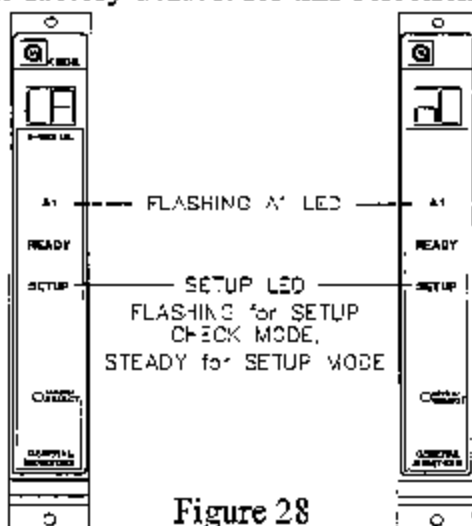

Figure 28
- The **A1** LED on the front panel will be flashing while the latching/non-latching option is displayed (figure 28). The display will indicate the current selection, (**nL** or **LA**). Non-Latching is the factory default for this selection.